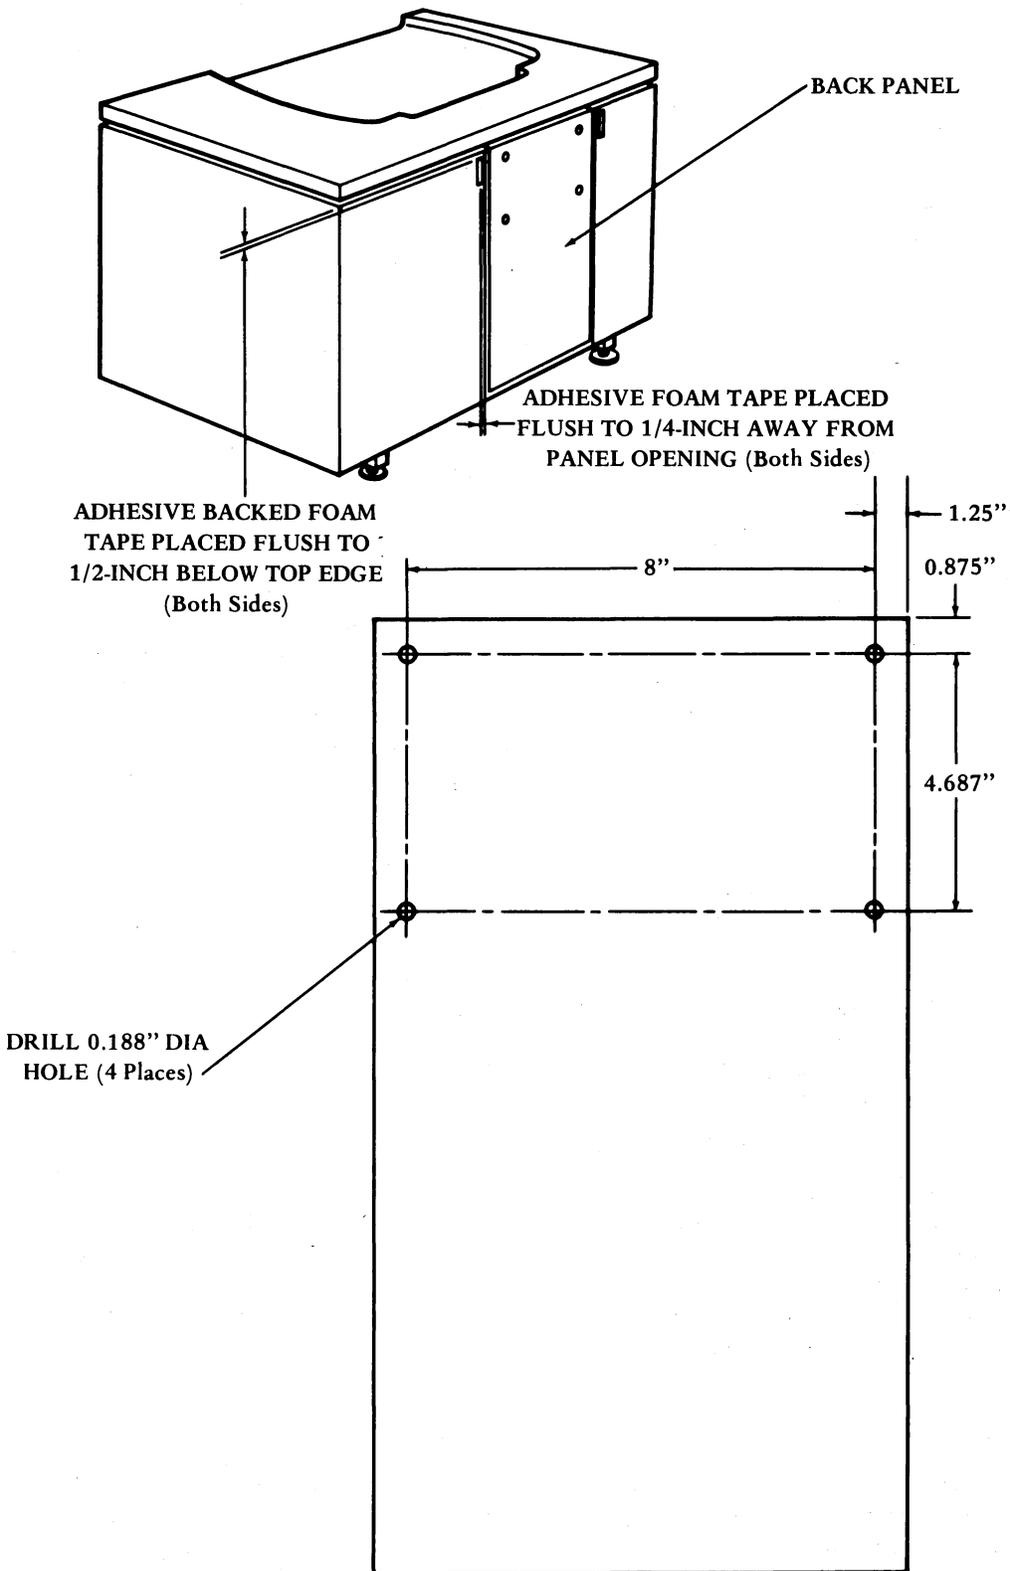

Figure 1 - Tables With Center Back Panel
3.01 To install the paper winder on tables with a center back panel (Figure 1), remove the two screws securing the back panel to the rear of the table. Remove the panel by raising the bottom and pivoting the panel away from the table.
- 3.02 Four holes must be drilled in the back panel. Figure 1 shows the location of the holes.
- 3.04 Apply two pieces of self-adhesive foam tape to the outside of the table adjacent to the opening for the back panel (Figure 1).
4.02 When the cover is in the open position, it should rest on the bumper on the display rack (Figure 1 or 3). Position the bumper on the display rack accordingly.